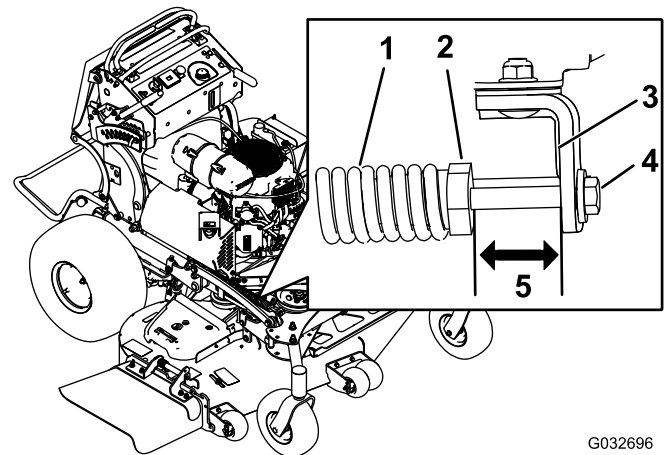

Figure 102
2. Check the distance between the spring nut and the rear side of the welded mount bracket (Figure 102).
3. Ensure that the length is 51mm (2 inches) for 48/52in decks, and 38mm (1.5 inches) for 60in decks as shown in Figure 102.
4. If needed, adjust the distance by adjusting the bolt on the front of the mount bracket (Figure 102).